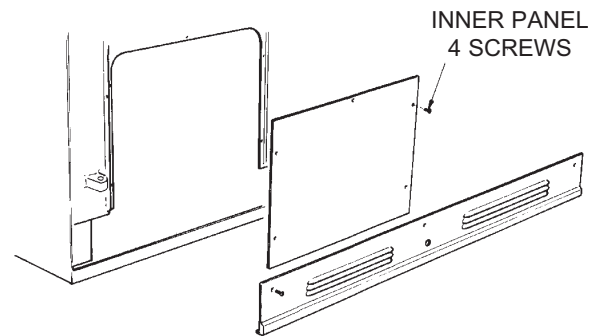

FIG. 17
- SEE FIG. 17
2. Remove (5) inner panel securing screws and remove panel.
- 3 Remove the (3) plinth securing screws and remove plinth.